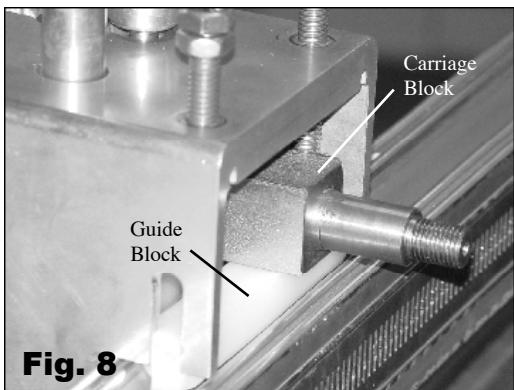

Fig. 8
Step 8: With the head positioned on the aluminum extrusion over the holes in the bottom tray, tighten the roller adjusting knob down all the way until closed. This will approximate the centering of the head vertically on the extrusion by clamping down on the guide blocks with the carriage blocks. See Fig. 8.